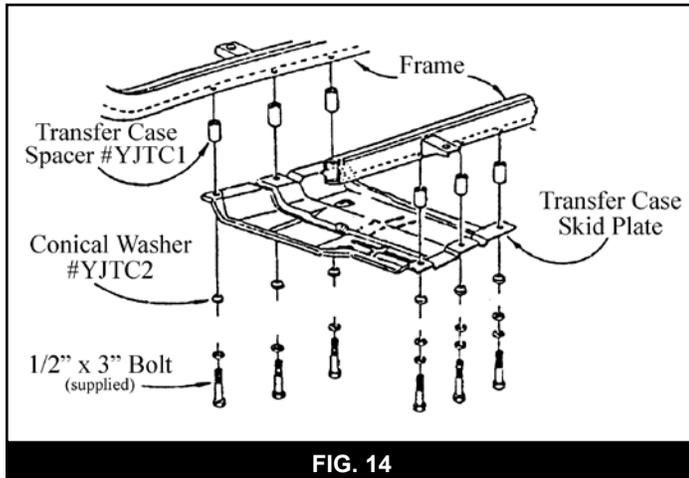

FIG. 14
4. Attach the skid plate using the provided conical (YJTC2) washers and $\frac{1}{2}$ " x 3" bolts (Fig 14). Leave bolts loose.